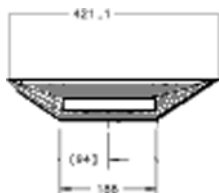

Figure 1-34 Determine the slot center
- c.) Find the center of the inside slot. Width of the inside slot is 186.4 mm (7.3 in.) (93.2 mm (3.7 in.) center). Use a square or straight edge to determine the center (see Figure 1-34).